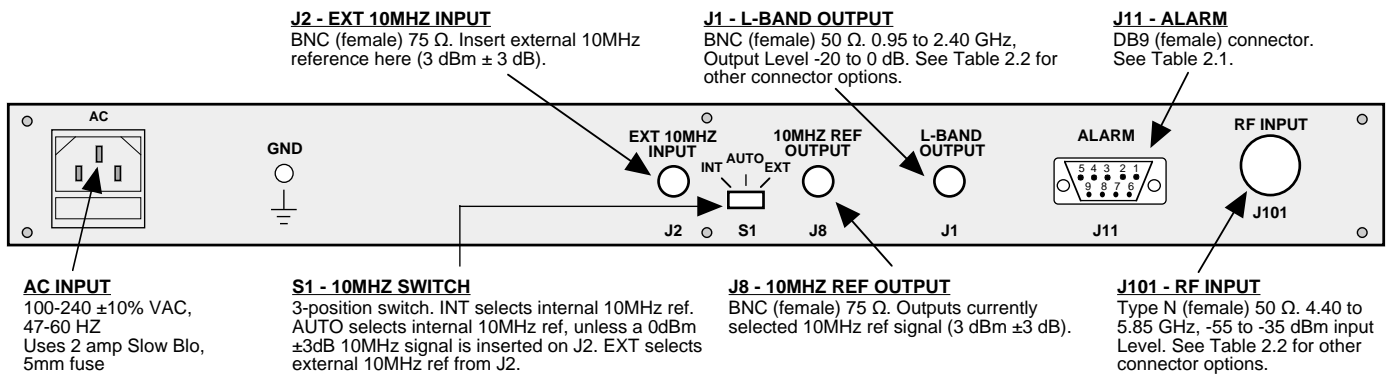

FIGURE 2.1 2116-44# Rear Panel I/O's
2.2 Rear Panel Input/Output Signals - Figure 2.1 shows the input and output connectors on the rear panel.
- 1.) Connect a -55 dBm to -35 dBm signal to RF INPUT, J101 (Figure 2.1).
- 5.) Select either INT (for internal 10MHz ref), AUTO (for internal 10MHz ref UNLESS a external 10MHz, 0 dBm signal is connected to J2), or EXT (for external 10MHz, 0 dBm ref that is inserted at J2) on rear panel switch S1 (Figure 2.1).
- 7.) Check that a 10MHz, 0 dBm \pm 3 dB signal is present at the 10MHZ REF OUTPUT (J8) (Figure 2.1).